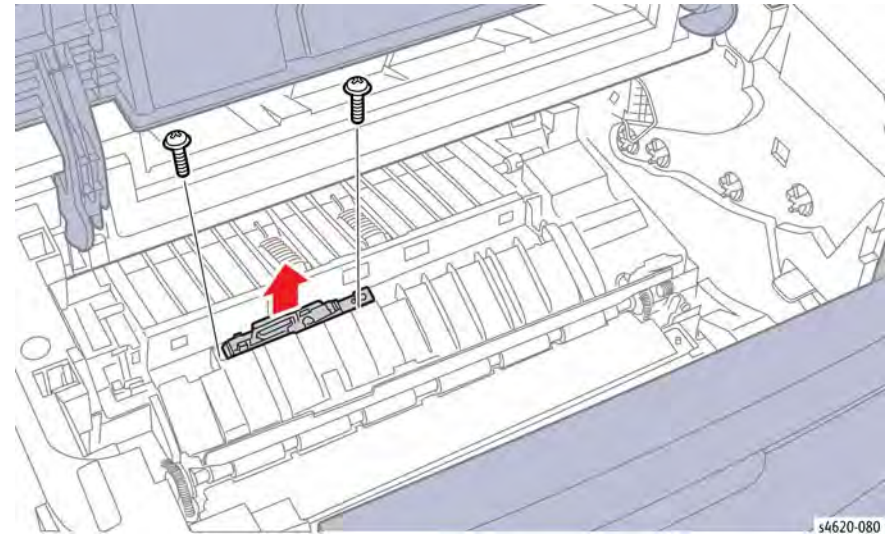

Figure 2 Remove the ADC Sensor holder screws
5. Remove 2 screws that secure the sensor holder to the frame, Figure 2.